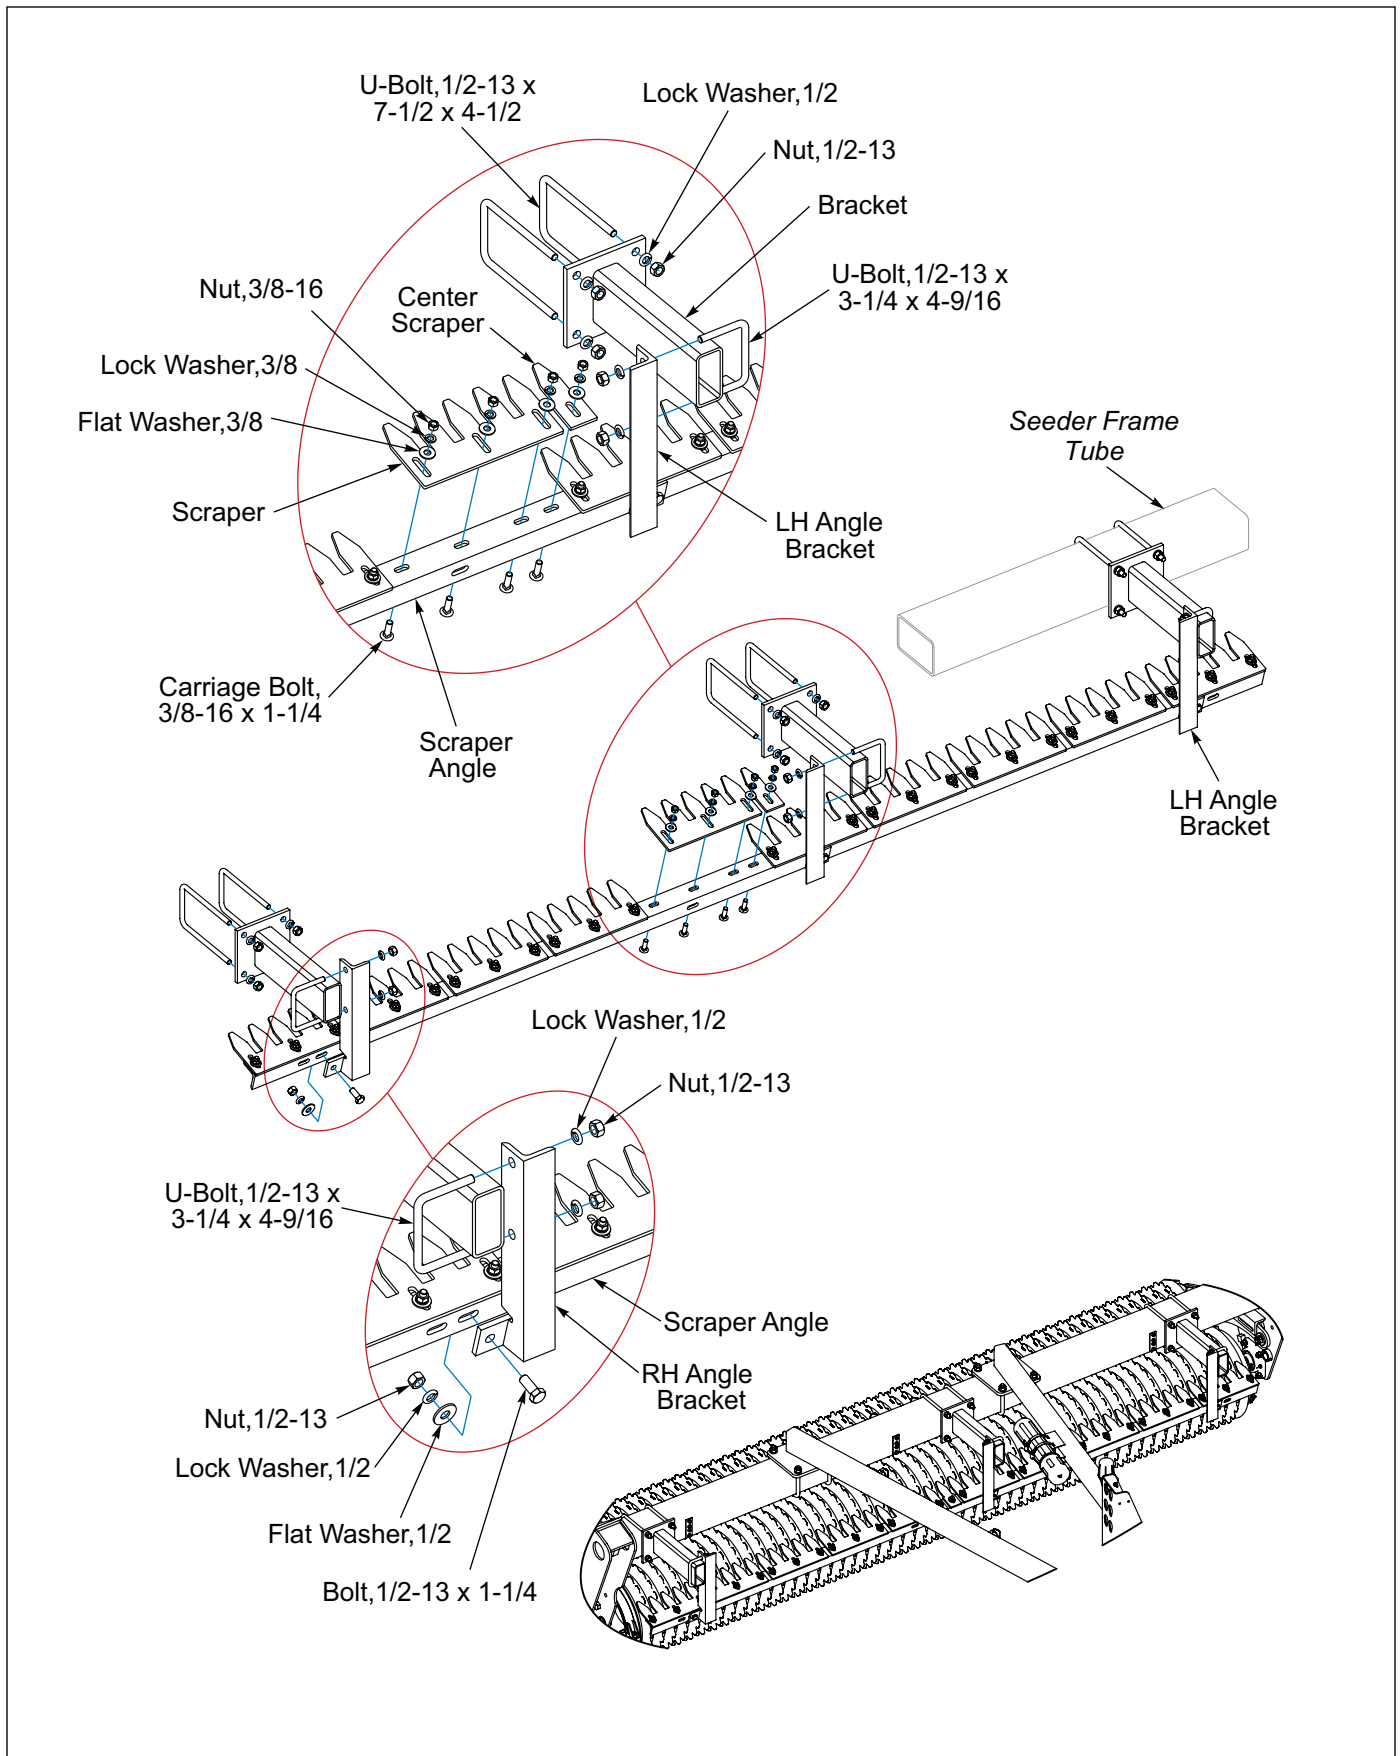

Figure 2-47: Scraper Kit- Optional
1. Assemble Brackets to the front of Seeder Frame Tube with 1/2-13 x 7-1/2 x 4-1/2 U-Bolts, Lock Washers and Nuts except for the 12FT Drawbar Seeder where you mount the Bracket to the Brace Plate with the Brace Hardware. **Do not** tighten at this time. **See Figure 2-47.**
You can add a Scraper Kit to 8FT or 10 FT Seeders. See Figure 2-47. Attach the outer RH and LH Angle Brackets to the S-Tine Brackets. You may need to reposition the S-Tine Brackets for proper placement of the Scraper Assembly. Scraper Kit Outer Brackets are not used.